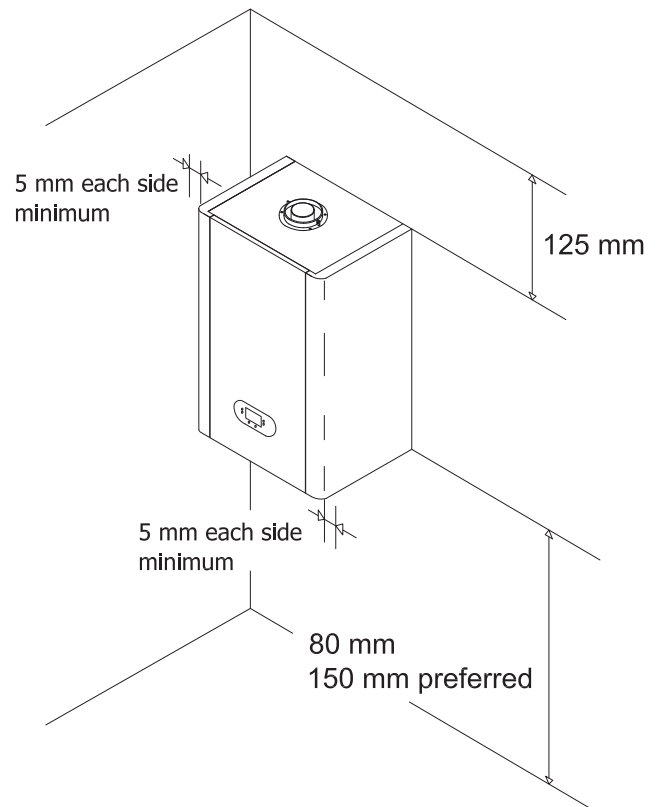

Fig. 14
5.7 INSTALLING THE APPLIANCE FOR REAR FLUE OUTLET (Fig. 14, 156, 10, 11). FOR APPLIANCE CLEARANCES SEE SECT. 4.4 AND SECT. 5.5)
Use adhesive tape to attach the template to the wall, making sure that the centre line is vertical and that the clearance distance is no less than that shown in fig. 14.
Screw the elbow header and seal on to the top of the boiler, positioning it towards the required direction (fig 14).